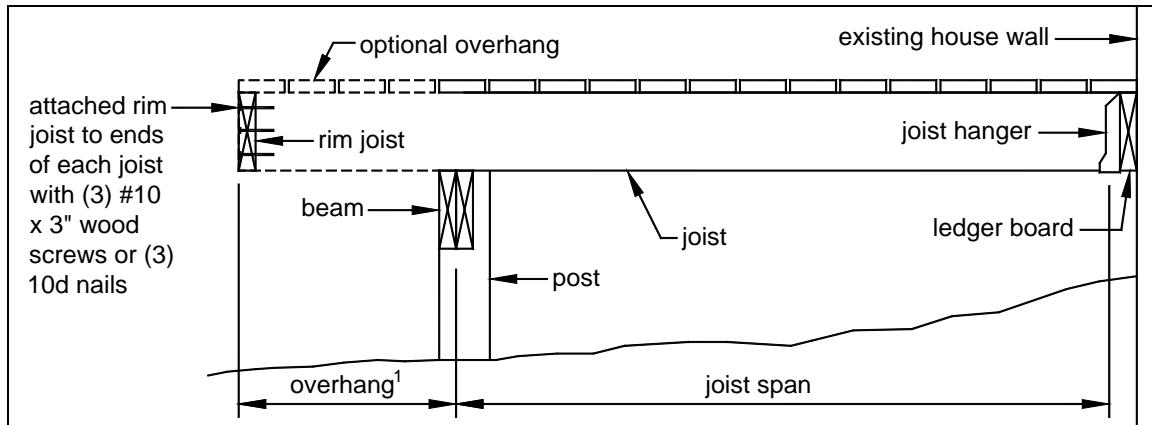
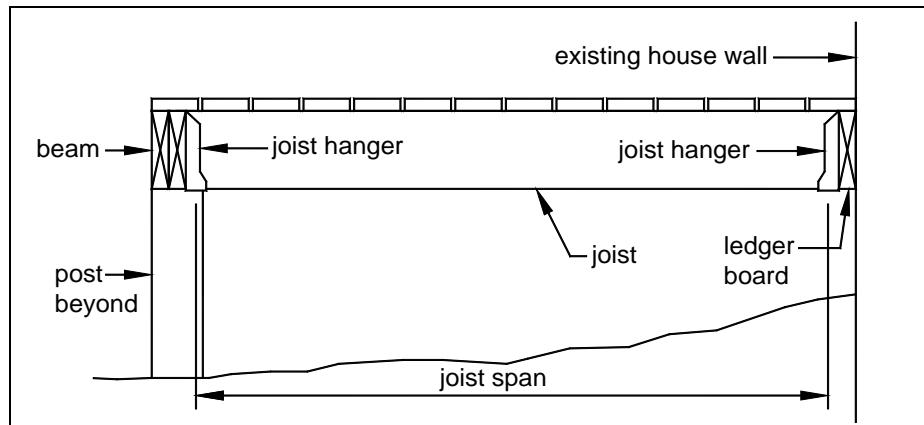
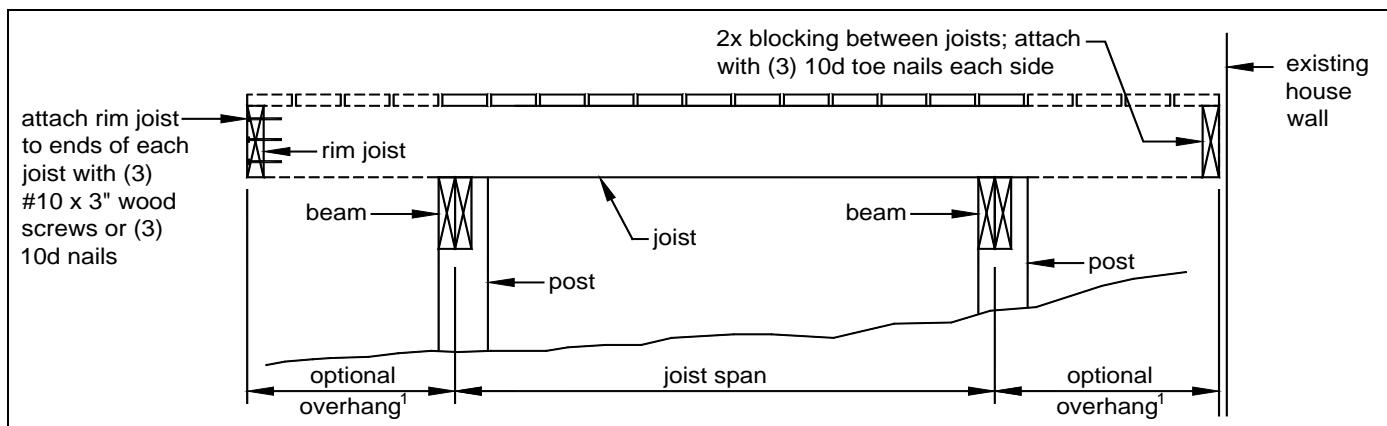
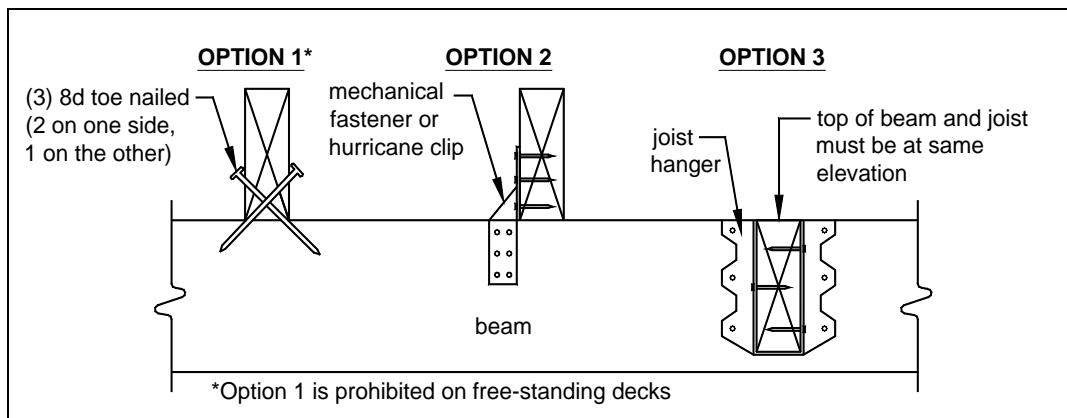

FIGURE 2: JOIST SPAN WITH OVERHANG - DECK ATTACHED AT HOUSE
FIGURE 3: JOIST SPAN - JOISTS ATTACHED TO SIDE OF BEAM
FIGURE 4: JOIST SPAN - FREE-STANDING DECK²
FIGURE 8: JOIST-TO-BEAM DETAIL
- See FIGURE 2 through FIGURE 4 for joist span types.
- Attach rim joist to end of joists as shown in FIGURE 2 and FIGURE 4.
Each joist shall be attached to the beam as shown in FIGURE 8. Use Option 1 or Option 2 when joists bear on or overhang past the beam as shown in FIGURE 2 and FIGURE 4. Use Option 3 when joists attach to the side of the beam as shown in FIGURE 3; however, the joist depth must be less than or equal in depth to the beam depth. See Joist Hangers below for information on hanger requirements. Mechanical fasteners or hurricane clips used in Option 2 shall have a minimum capacity of 100 lbs. in both uplift and lateral load directions. See manufacturer's instructions for minimum installation requirements.